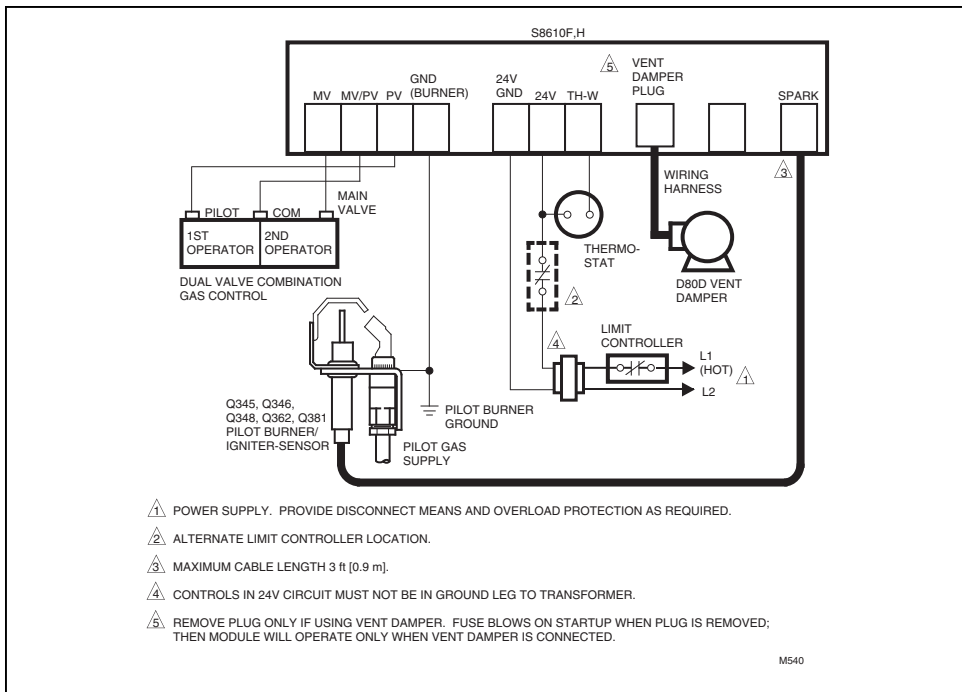

Fig. 3—S8610F,H with a vent damper plug in a heating system with an atmospheric burner and a D80D Vent Damper.
- Fig. 3 shows S8610F,H with vent damper plug in a heating only atmospheric burner system with D80D Vent Damper. *Never* use a vent damper in an LP gas system or in a fan-assisted combustion system.